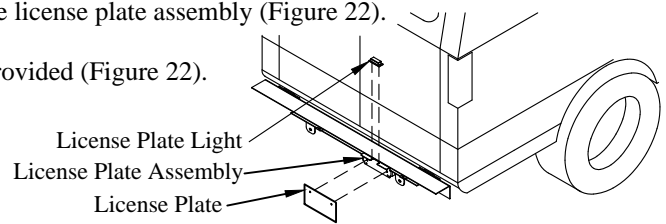

Figure 22: License plate & light location.
1. **Install** the two (2) square plastic insert nuts into the square holes on the license plate assembly (Figure 22).
2. **Install** the license plate using the two (2) 1/4-20 self-tapping screws provided (Figure 22).
3. **Install** the license plate light into the holes provided (Figure 22).